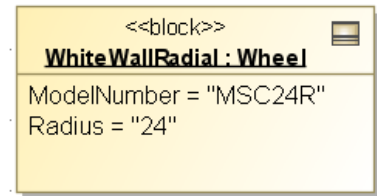

Figure 1.2c Instance of a Block
- Instances represent a specific example of a generic object, like WhiteWallRadial in Figure 1.2c. The value properties have specific values, which may be fixed or calculated from other system values. ParaMagic executes parametric calculations for specific instances of system models.